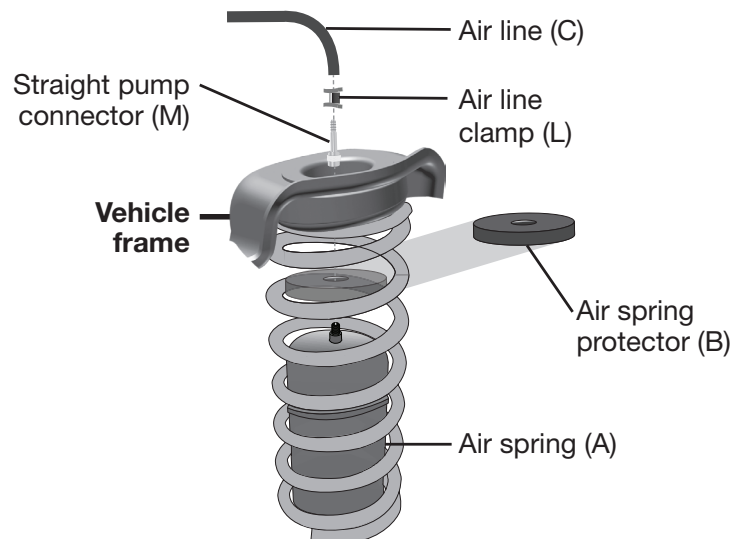

fig. 10
5. From the tee, route the air line along the top of the frame on both sides to, and down through the top spring seats, through an air spring protector (B) to the air springs (Fig. 10). Leave sufficient slack to prevent any strain on the fitting during axle motions. Cut the air line to length using a sharp knife.
6. Attach the straight pump connector (M) to the air line (Fig. 10). Attach the straight pump connector to the air spring fitting. Do not use any tools to tighten the fitting.